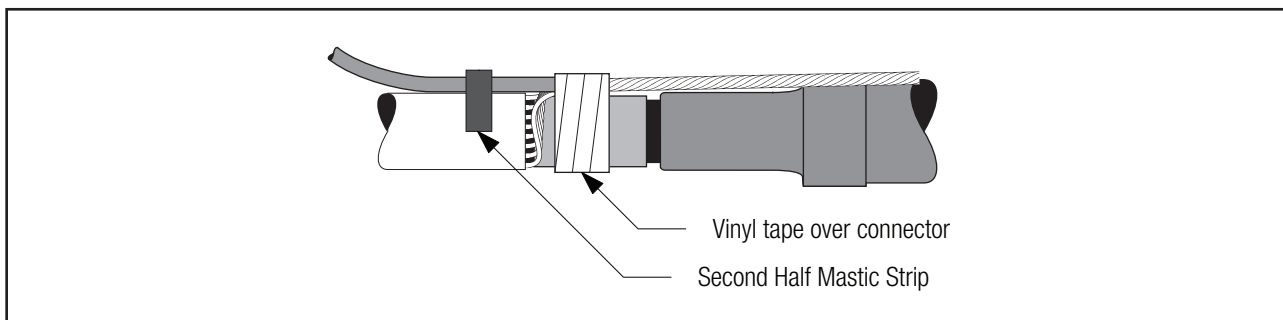

Figure 44
- 11.3 Place the other half mastic strip over ground wire and two rolls. Press the mastic around the ground wire and to the cable jacket. Overwrap the connectors with vinyl tape (*Figure 44*).